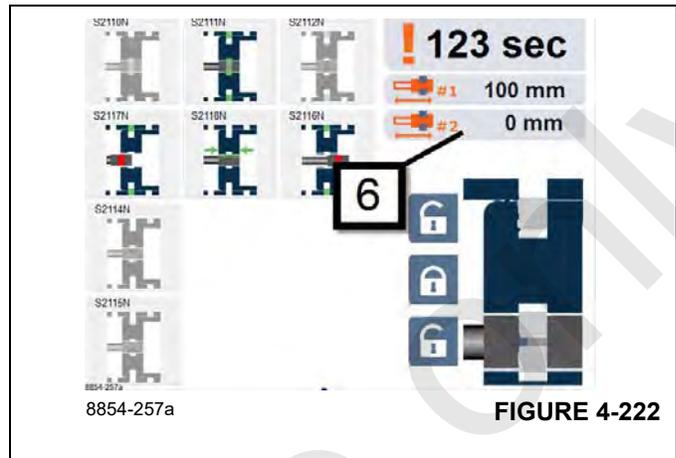

FIGURE 4-222
- If the precision length sensor for the tele cylinder does not show a reasonable value, then the second length sensing can be referred to (6), (Figure 4-222). This is typically from a length potentiometer from the power cable reel in the boom (it is separate from the precision length sensor). This length potentiometer is not as